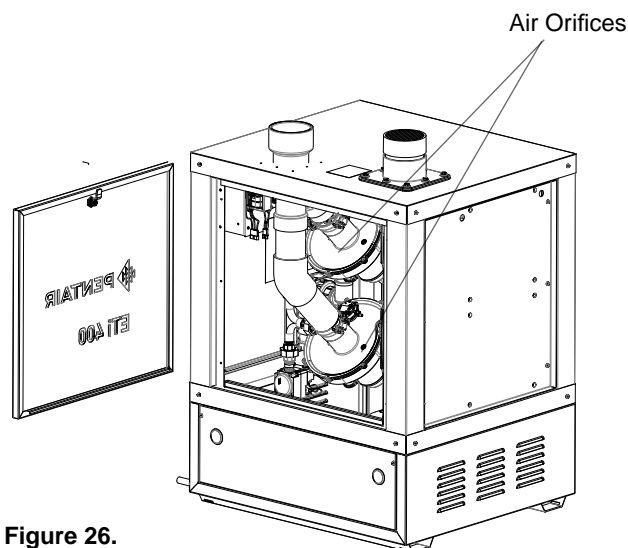

Figure 26.
6. Push the air intake assembly into the air orifices. Note: Be sure the top part of the elbow is concentric to the air intake hole in the top panel (see Figure 26).